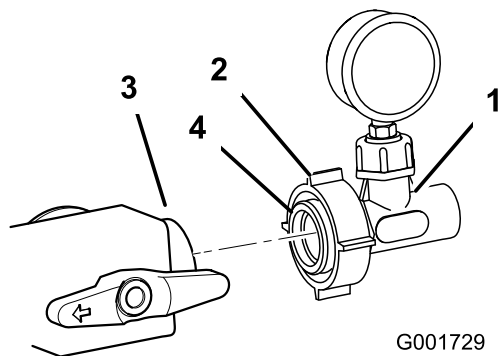

Figure 16
16. Lubricate the O-ring in the adapter with a non-petroleum based lubricant, such as vegetable oil (Figure 16).
17. Install the pressure gauge assembly to the forward facing opening in the control valve installed previously (Figure 16). Tighten the plastic nut to secure the assembly to the valve.